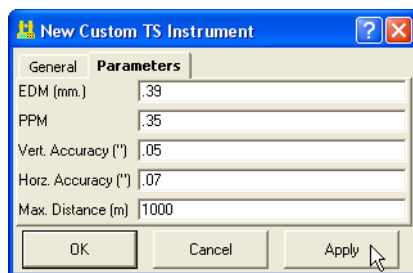

Figure 5-93. New Custom TS Instrument – Parameters
- Click the **Parameters** tab and enter the *EDM*, *PPM*, vertical and horizontal accuracies, and maximum distance (Figure 5-93).